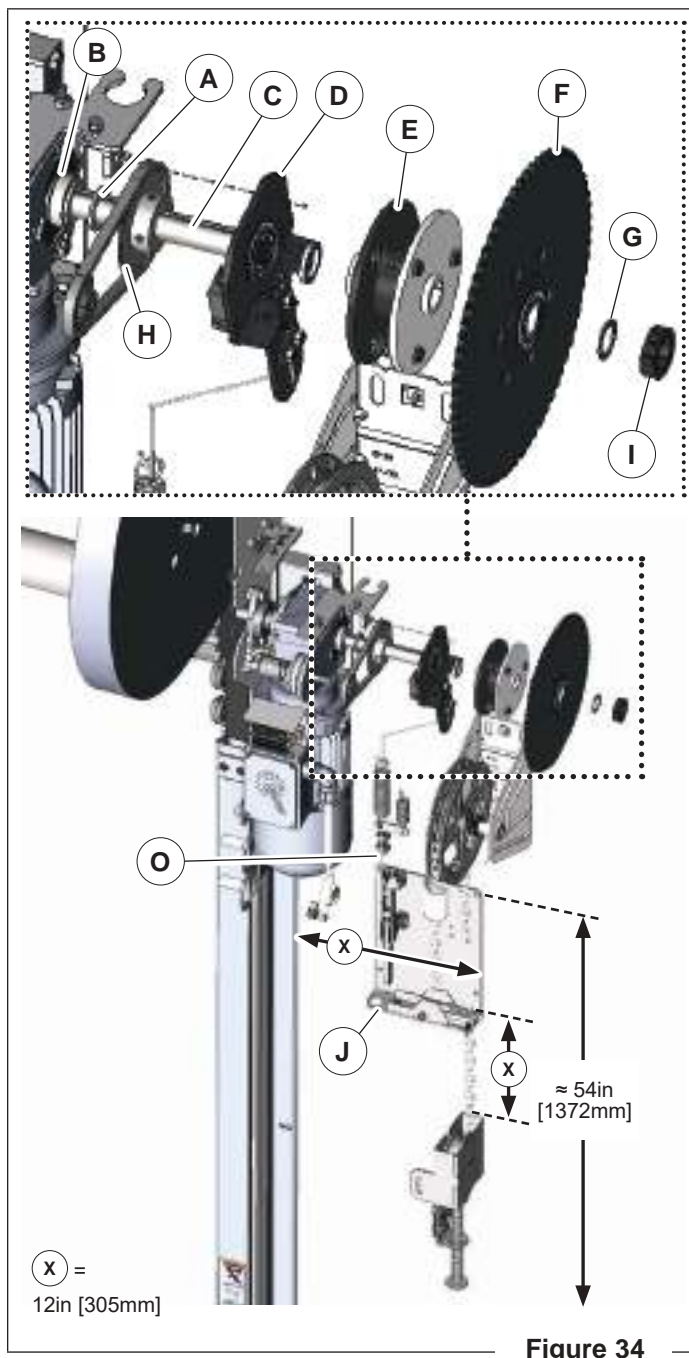
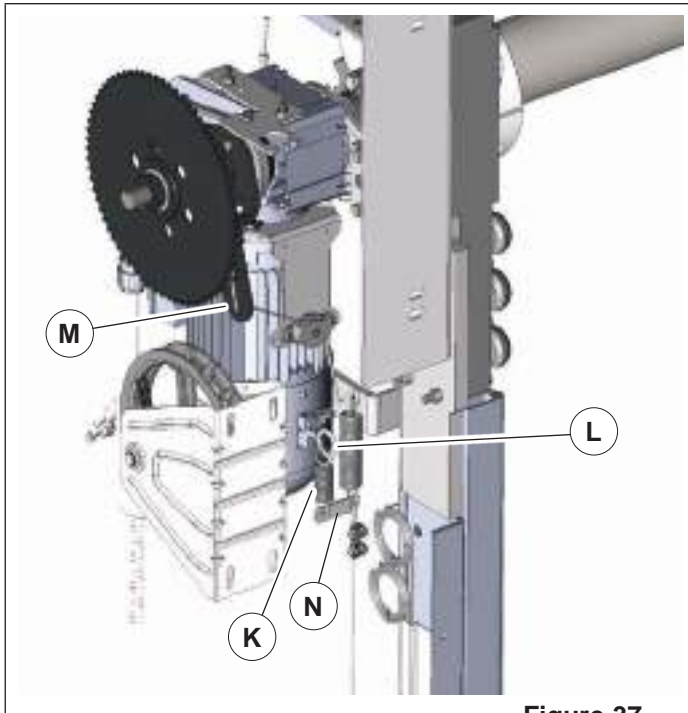

Figure 34
Figure 37
- b. The fault switch must be moved to the opposite side of the engagement arm bracket (D).
- c. Remove the hand lever/chain blocker assembly (J) and rotate to opposite side of bracket.
1. Install 1/8in [3mm] spacer (A) on the outside of the lock collar (B).
2. Install encoder sprocket (H) with hub pointing away from the gearbox (Figure 34).
3. Install proper spacer (C) (according to door model) onto shaft next to the encoder sprocket. Spacers are shipped cable tied to the motor assembly.
9. Attach the smaller of the 2 springs (K) to the brake release eye bolt (L) (Figure 37). Smaller spring should be toward the outside.
10. Route the short cable (M) through the pulley, then through the hole in the bottom of the engagement arm bracket and clamp it behind the pressure plate. The spring plate (N) should sit level when hanging without the hand lever engaged (Figure 37).
15. Mount the hand lever/chain blocker assembly (J) at a convenient height off the floor, ≈ 54in [1372mm] to top of plate so the hand lever is easily accessed. Align with brake hand lever and chain hoist, ≈ 11-12in [305mm] from lower track to outside mounting holes. Use fasteners suitable to hold unit to the wall (**Figure 34**).
18. Route the longer cable (O) (**Figure 34**) attached to the hand lever up through the larger hole on the spring plate (N) (**Figure 37**).